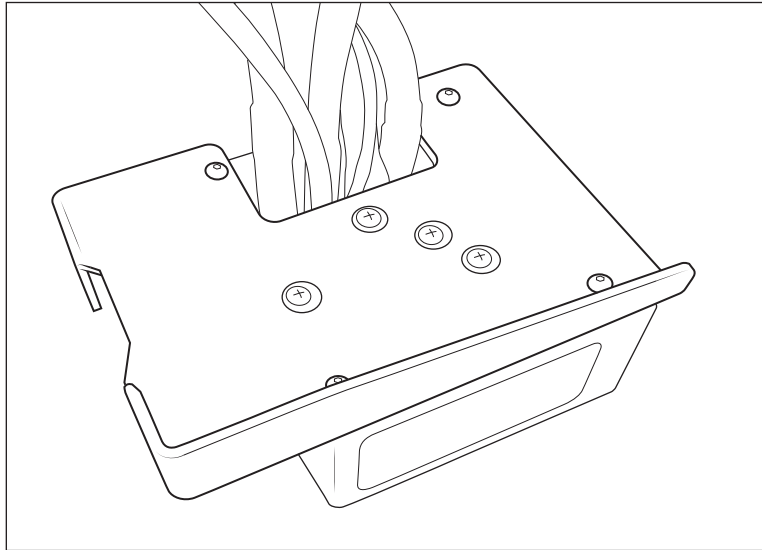

Figure 3
5. Mount the AEV housing bracket in its place, making sure to keep the part flat as to not shake the interior nuts out of place, screw in the AEV provided screws and washers to mount the AEV bracket onto the power box (fig. 3).